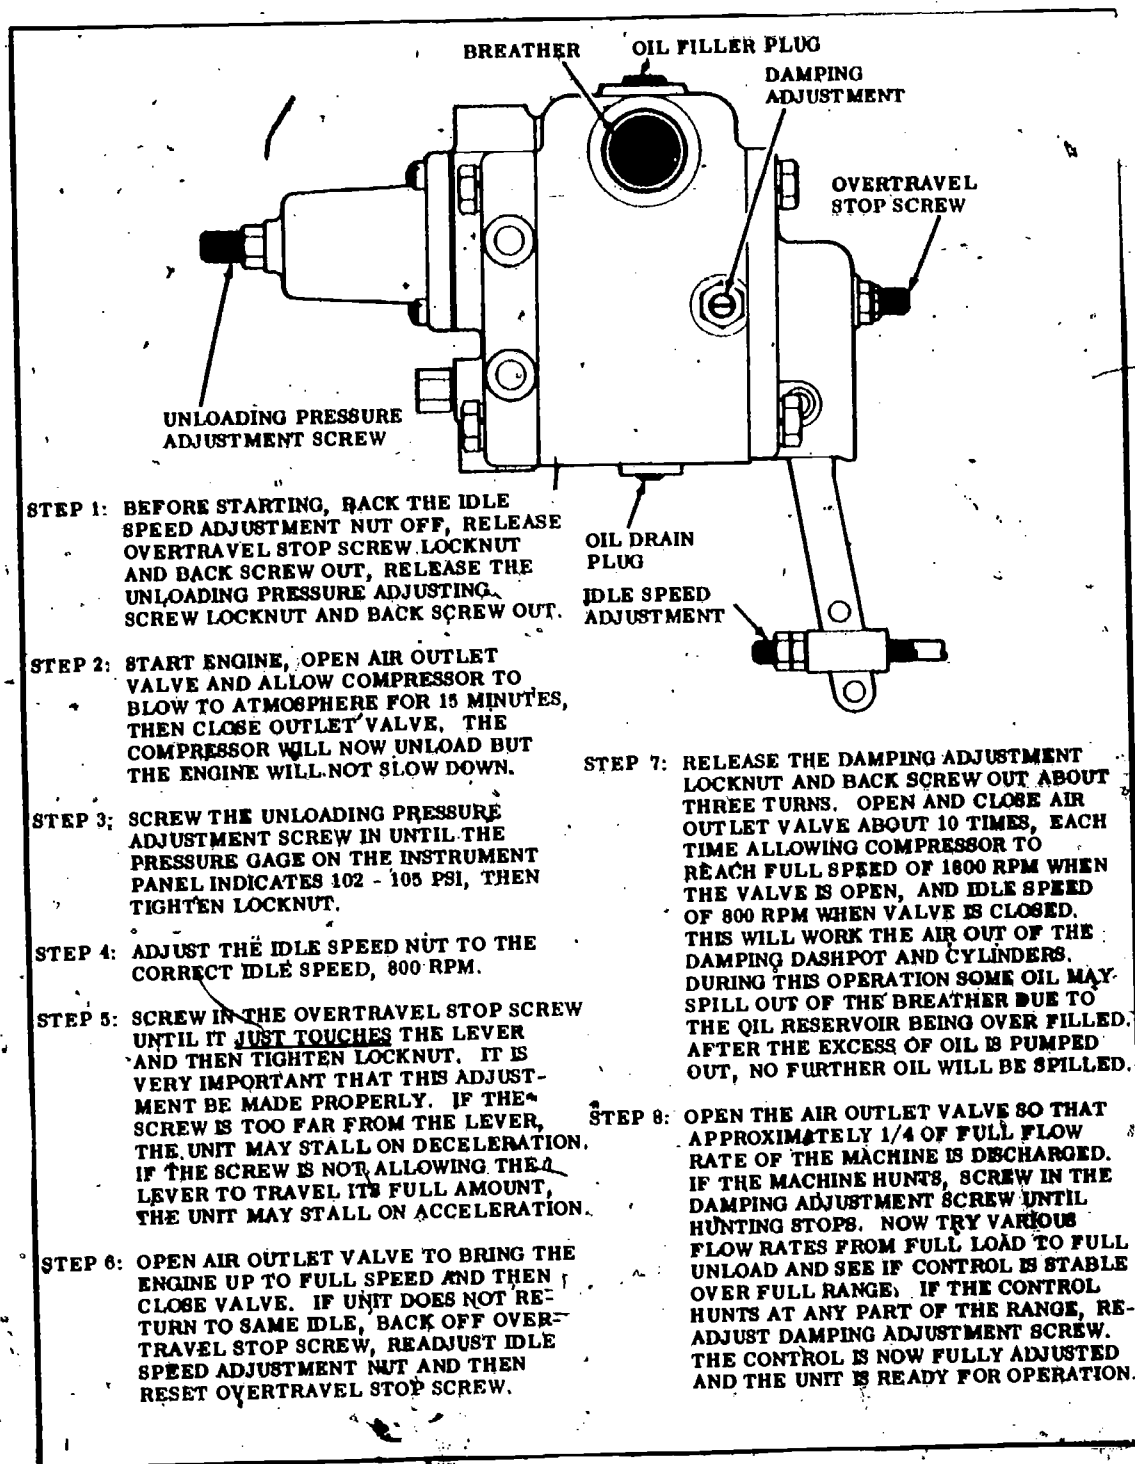

Fig 6-8: Engine speed control adjustments for the 250-cfm rotary compressor.
- (b) Operating adjustments. The location of the adjusting points and the steps to follow when making the adjustments are shown and described in figure 6-8. While the compressor is operating, continue to check the instruments and the equipment.